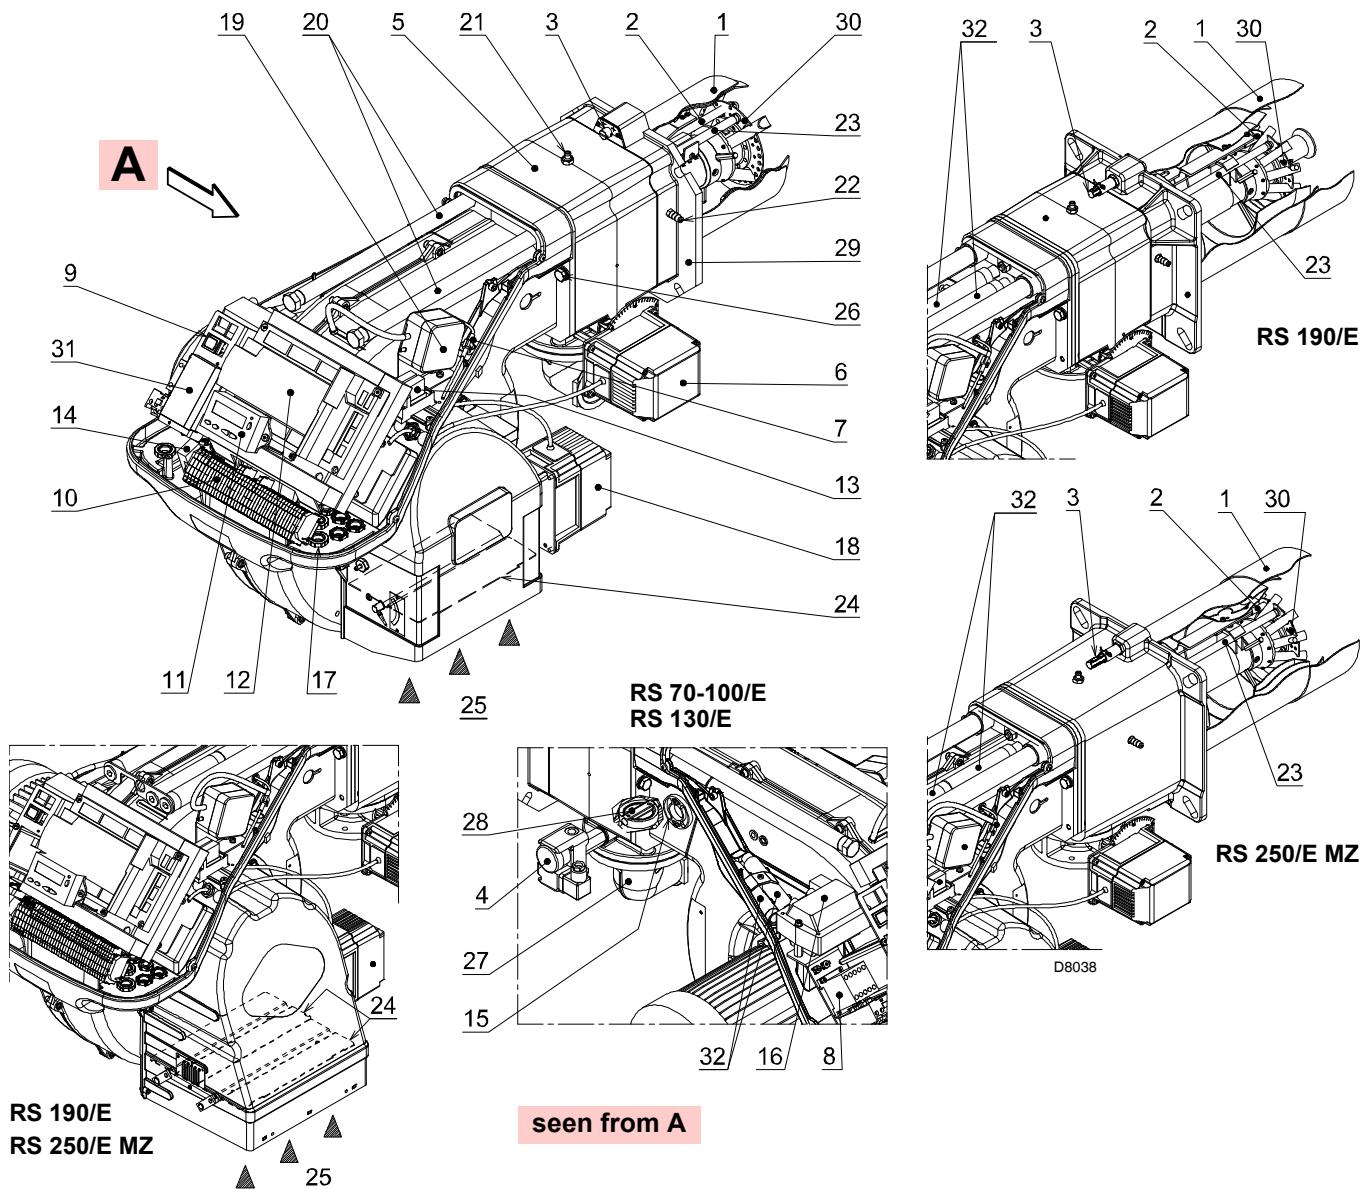

Fig. 5
(1) Reference conditions: Room temperature 20°C - Gas temperature 15°C - Barometric pressure 1013 mbar - Altitude 0 m above sea level.
(2) Gas pressure on the pipe coupling test point 21) (Fig. 5) with zero pressure in the combustion chamber and at maximum burner output.
(3) Sound pressure measured in manufacturer's combustion laboratory, with burner operating on test boiler and at maximum output.